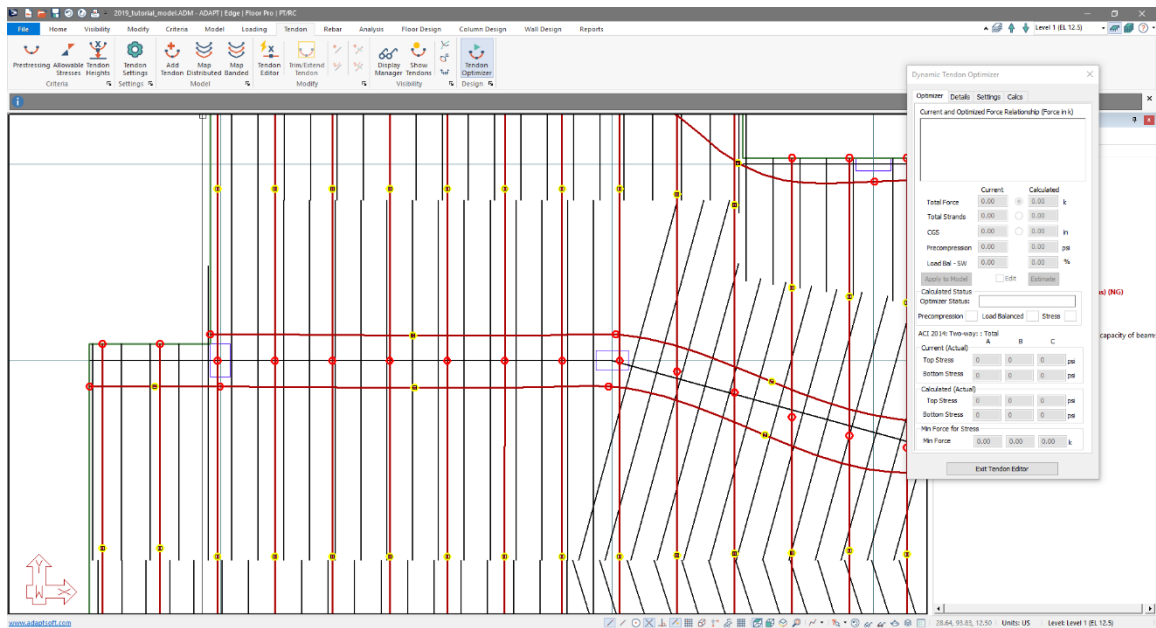

Figure 9-89
- The tendon control point heights should now be shown in red and yellow. Red marking the high points of the tendons and yellow marking the low points of the tendon as shown in **FIGURE 9-89**.